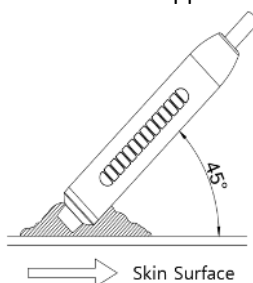

Figure 1.
- If use 4,5,8MHz probe, hold the probe softly against the measurement area at an angle of approximately 45 degrees to the skin surface (see figure 1). Place the probe on the skin and move slowly to locate the point where maximum Doppler sounds are heard.